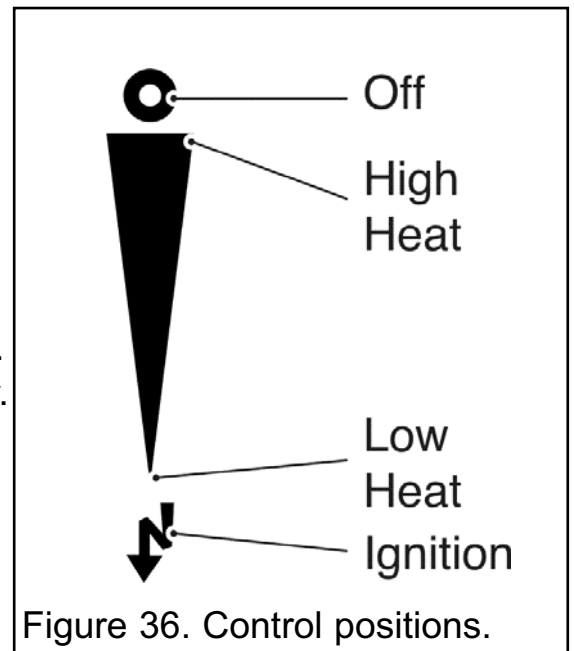

Figure 36. Control positions.
The control position markings on the fascia are shown in figure 36.
1. Gradually slide the button up to increase the burner setting. The burner should be at its maximum setting at the high heat position shown in figure 36. You should feel a check to the button movement at this position.